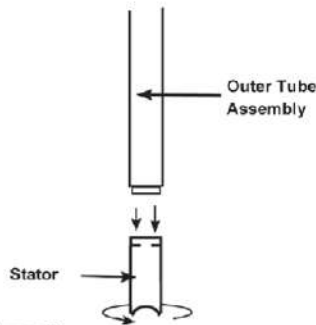

Figure 7
9.Remove the stator from the pump tube body by turning clockwise (see Figure 7).
7.Thread stator can onto pump body (see Figure 7).